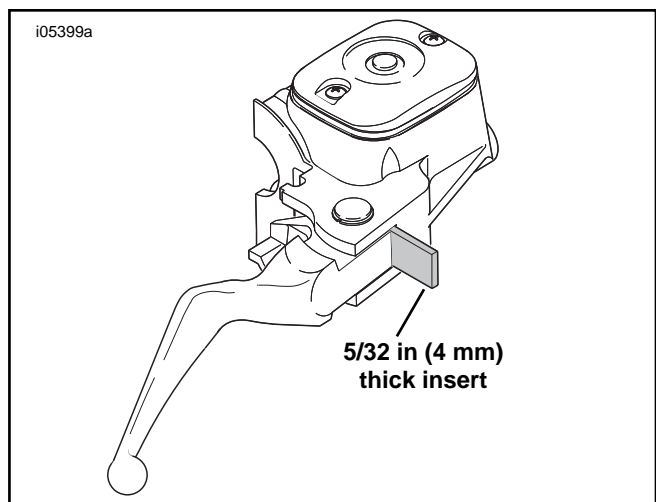

Figure 1. Position Insert Before Removing Master Cylinder
6. See Figure 1. Squeeze the brake lever and place the insert between the brake lever and lever bracket.